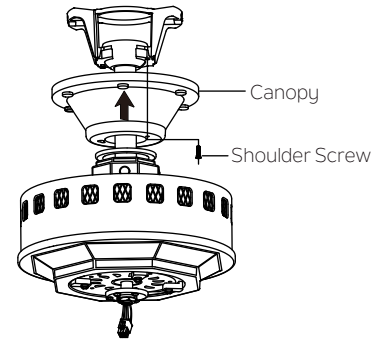

Fig.14
Step 2. Assemble canopy by rotating key slot in canopy over shoulder screw in mounting bracket. Tighten shoulder screw. Fully assemble and tighten second shoulder screw that was previously removed. (Fig. 14)